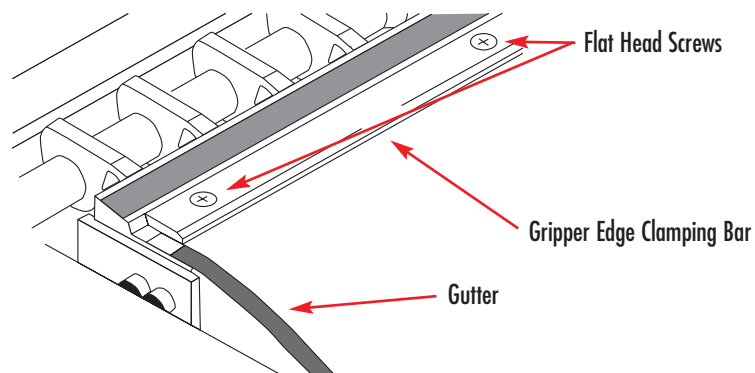

Figure 1
4. Once the surfaces are cleaned, rotate the transfer cylinder to access the gripper edge clamping bar. (See Figure 1.)
5. Loosen (but do not completely remove) the spring-loaded flat head screws enough to allow the Super Blue® LT™ system to slide under the clamping bar. As the screws are loosened the springs should raise the clamping bar. (See Figure 1.)